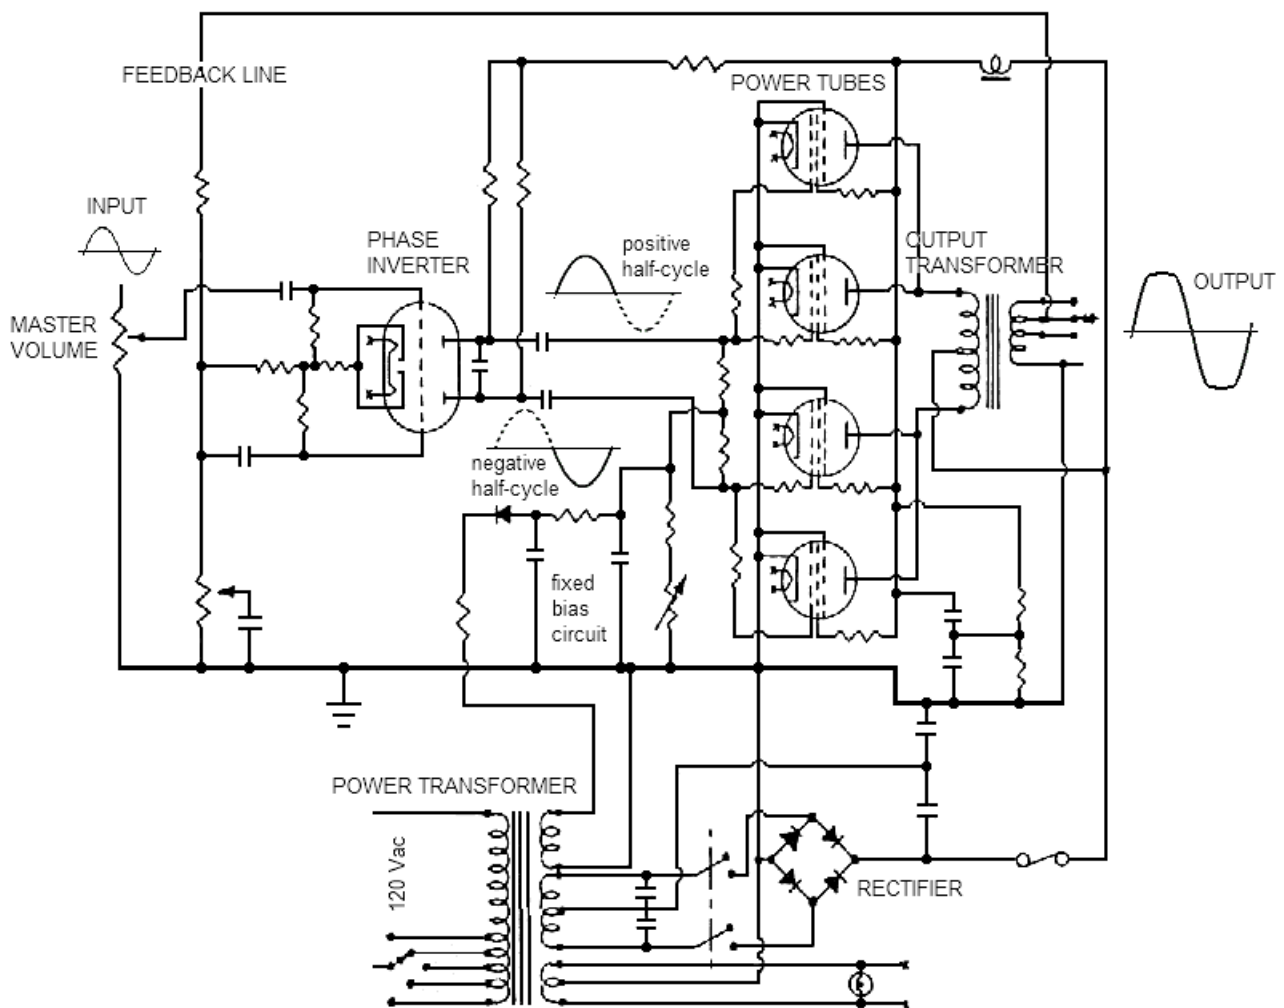
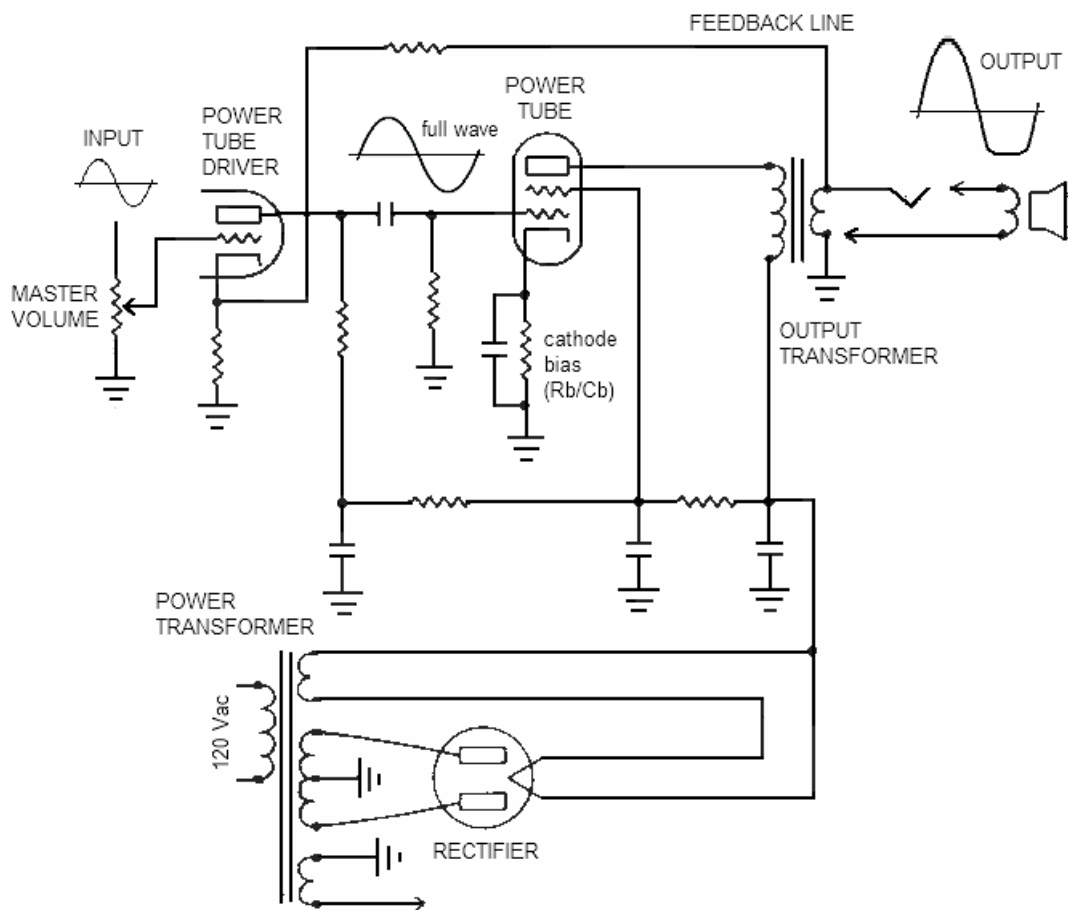

Figure 1. Push-Pull Tube Power Amplifier.
Figure 2. Single-Ended Tube Power Amplifier.
The following are some technical tips that expand upon the PAE-2 User Manual. As the PAE-2 uses a topology analogous to tube amps, terms such as "phase inverter", "power tubes" and "output transformer" are used to describe the corresponding solid-state analog sections in the PAE-2 as well as in tube amps. Figures 1 and 2 depict push-pull and single-ended tube power amps, respectively, for reference.
**Fixed Bias/Cathode Bias switch:** Power tubes can be configured in fixed bias or cathode bias. In fixed bias a dc voltage is applied to the tube grid to set the bias current level (“fixed bias circuit” in Figure 1). In cathode bias a resistor and capacitor on the tube’s cathode is used to set the bias current level (“Rb/Cb” in Figure 2). Cathode biased stages develop a voltage across their cathode bias resistor as current flows through the tube. This reduces the total voltage developed across the tube and causes a slight power output drop. It also varies as current flows through the tube and shifts the operating point of the tube, causing compression and harmonic distortion. For these reasons, fixed biased amps are known as being “firmer” and cathode biased amps as being “squishier”, particularly in response to hard string strikes at loud volumes.
**Push-Pull/Single-Ended switch:** Power amps can be configured as push-pull or single-ended. Push-pull amps use different tubes for the positive and negative portions (half-cycles) of the output signal, with each tube amplifying one-half of the signal waveform and the entire waveform then being reconstructed at the output transformer (see Figure 1). This results in a symmetrical output waveform because both positive and negative half-cycles of the wave are amplified identically (at least, in a perfect world). Single-ended amps’ output tubes each amplify the entire signal and since even centrally biased tubes cannot amplify the entire wave perfectly symmetrically, they produce an asymmetric output dependent on the tube’s
characteristic curve (See Figure 2). Part-for-part, push-pull amps are more efficient, produce higher power outputs and have more clean headroom than single-ended amps.
**MASTER:** As in a tube amp, the MASTER volume control in the PAE-2 is located right before the “phase inverter” section. Cranking the MASTER drives not only the “phase inverter” harder but also everything down the line (i.e. the “power tubes”). In “Single-Ended” mode the MASTER control is analogous to controlling the signal level hitting the “power tube driver” (See Figures 1 and 2).
**PI GAIN:** Push-pull amplifiers require a phase-inverter to drive the output tubes (see Figure 1). Single-ended amplifiers have no phase inverter (1 on the PI GAIN dial) but instead rely on a “power tube driver” stage to provide the necessary signal level to drive the power tubes (see Figure 2). Phase inverter/driver tubes vary from a gain of 20 (for a 12AU7 tube) to 100 (for a 12AX7 tube). Higher gains result in less clean headroom, more power tube distortion and more sustain.